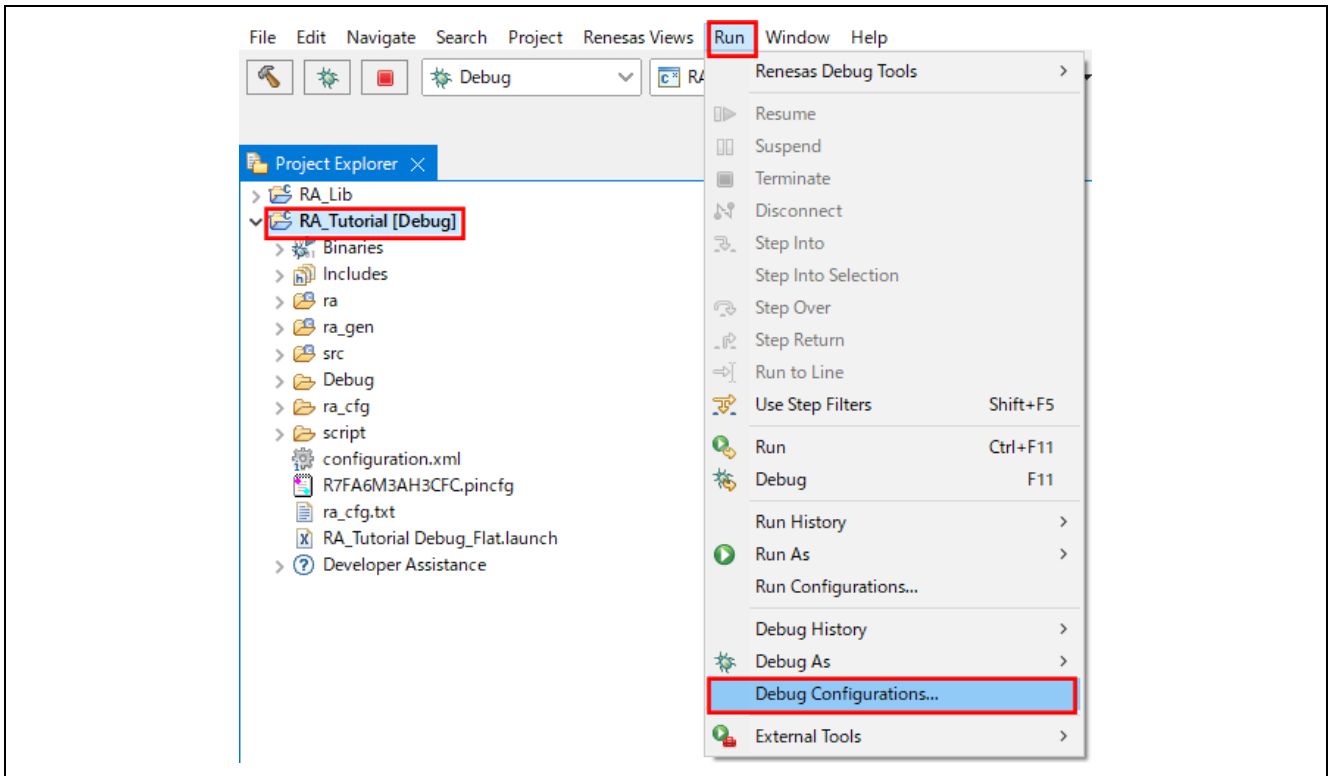

Figure 5-2. Debug – Opening the Debug Configurations Window
- Open the **Debug Configuration** window (refer to Figure 5-2. Debug – Opening the Debug Configurations Window).
- In the **Debug Configurations** window, select a debug configuration (for example, **RA_Tutorial Debug**) and click on the  icon (which duplicates the currently selected launch configuration). A new debug launch configuration (for example, **RA_Tutorial Debug (1)**) is created.